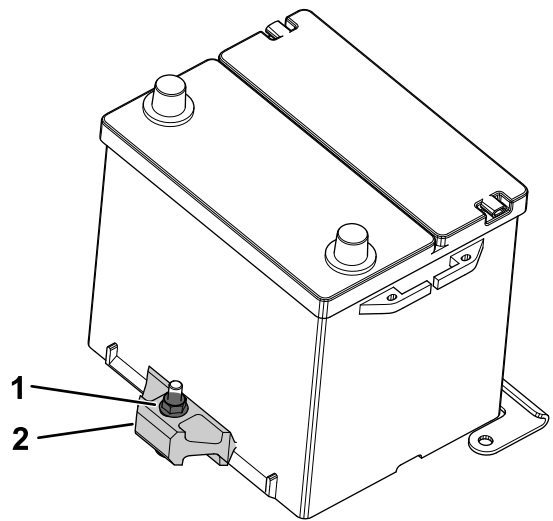

Figure 77
2. Loosen the locknut securing the battery retainer and remove the battery from the tray (Figure 77).
1. Place the battery on the battery tray and secure the battery to the retainer by tightening the locknut (Figure 77).